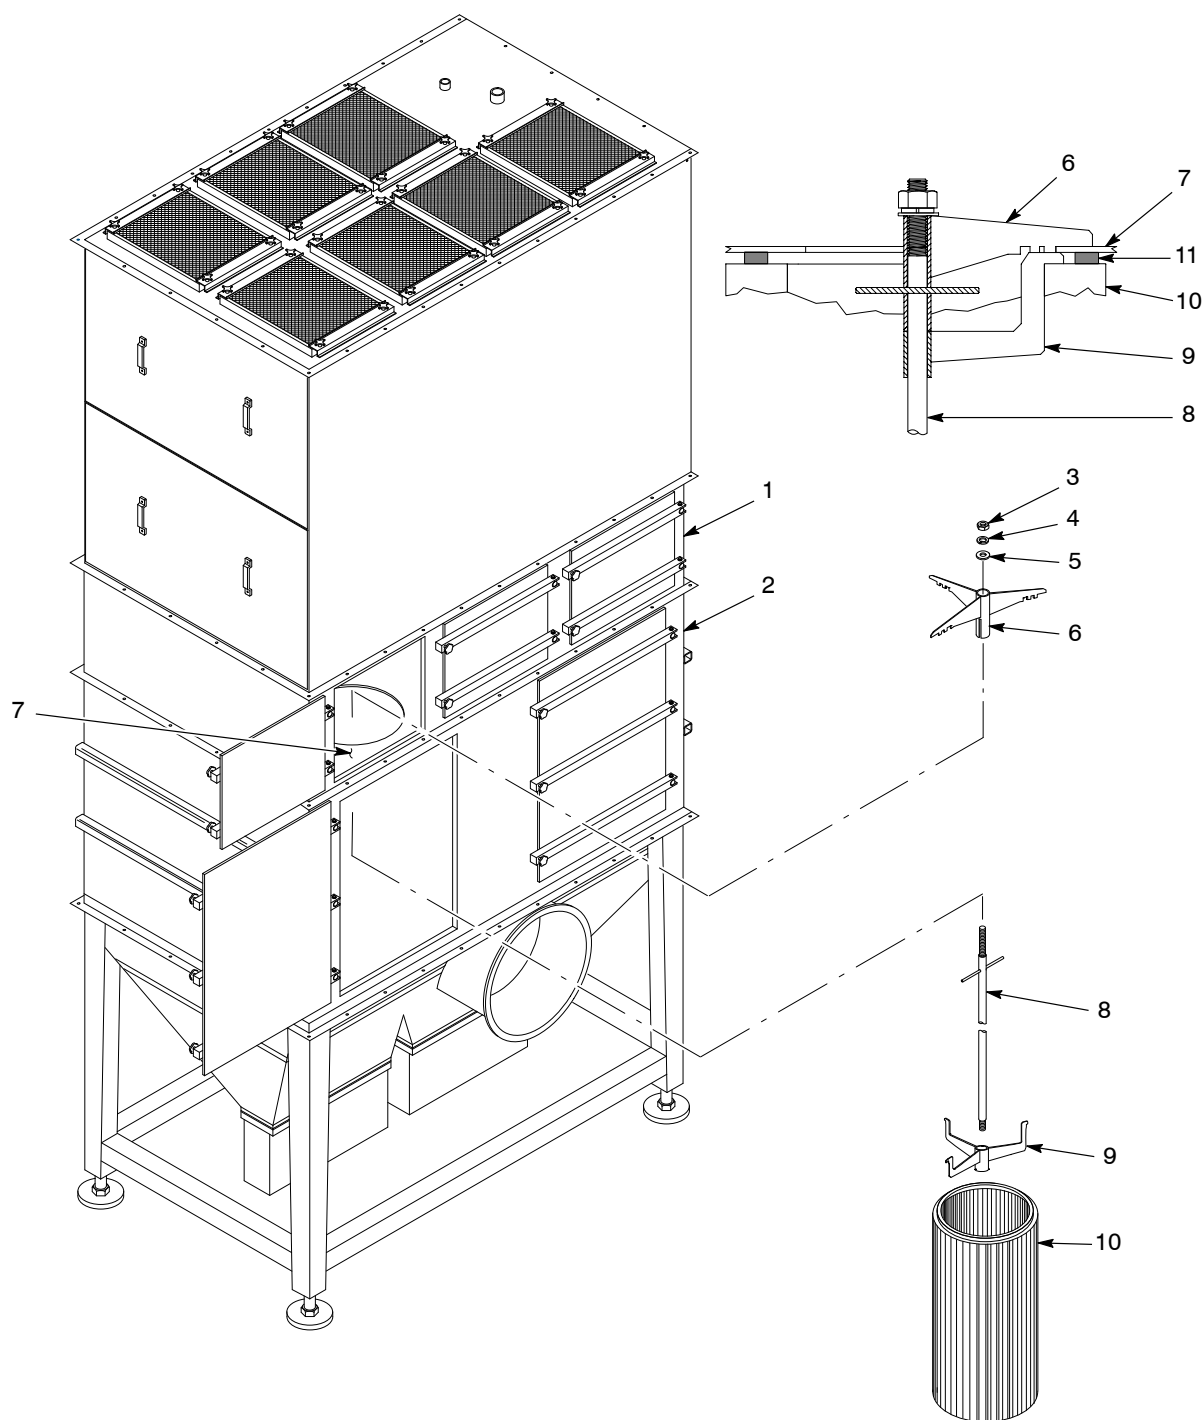

Figure 7-1 Cartridge Filter Replacement
3. See Figure 7-1. Open the access doors in the blowdown and cartridge filter sections (1, 2).
4. Pull up on the T-handle on the draw rod (8) to hold the cartridge filter (10) against the mounting plate (7).
5. Remove the nut (3), lock washer (4), flat washer (5), and mounting bracket (6) from the draw rod. Save these parts for reuse.
6. Carefully lower the cartridge filter away from the mounting plate and out of the after filter. The centering bracket (9) and draw rod will stay in the cartridge filter.
See Figure 7-1.